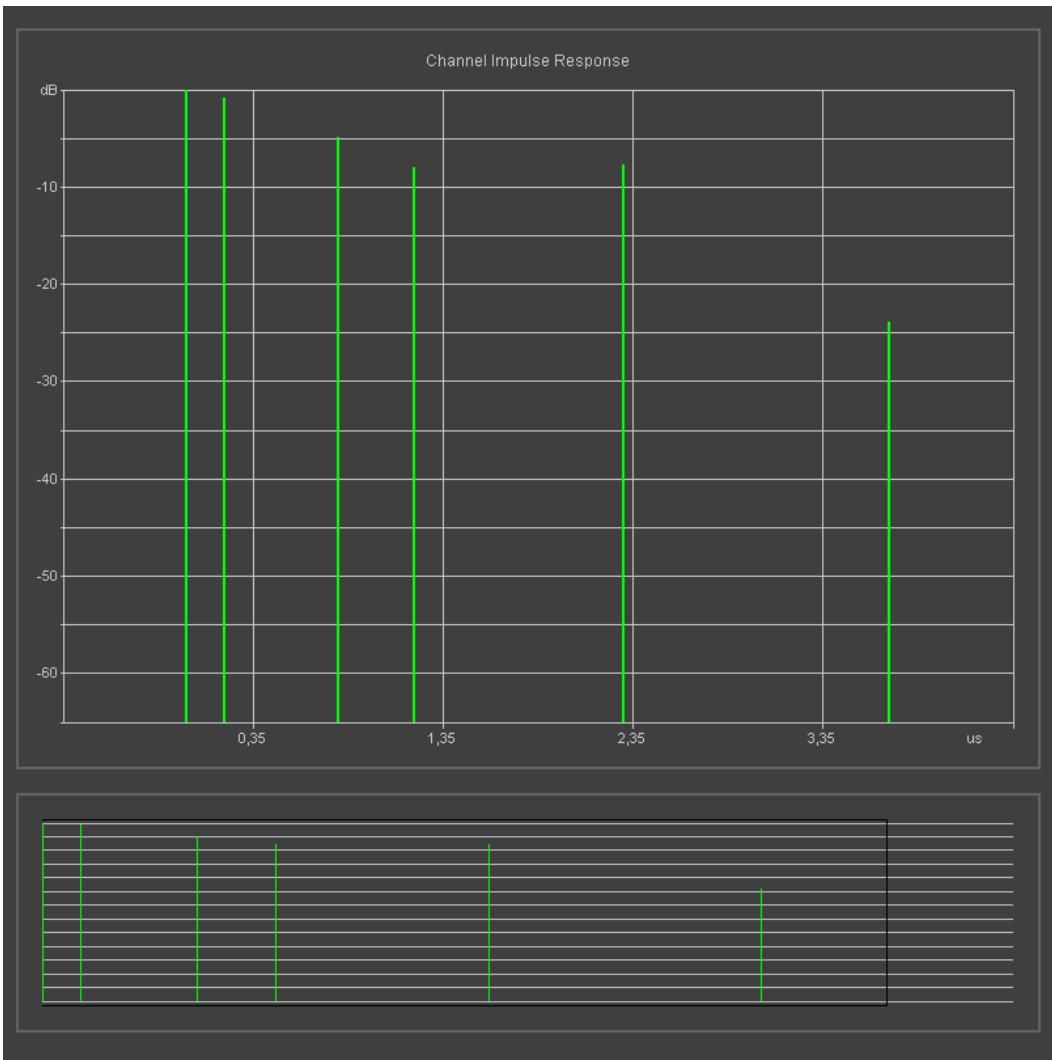

Figure 184 CIR graph
The CIR graph area presents the taps that are configured for a specific model in a graphical format. The area consists of two windows. The lower window displays the entire impulse response (IR) of the model. This window is scaled to display all the taps. The upper window displays a chosen, zoomed section of the IR. To display certain taps of the IR, select the corresponding segment in the lower window. An example CIR graph area with six configured taps is shown in Figure 184.